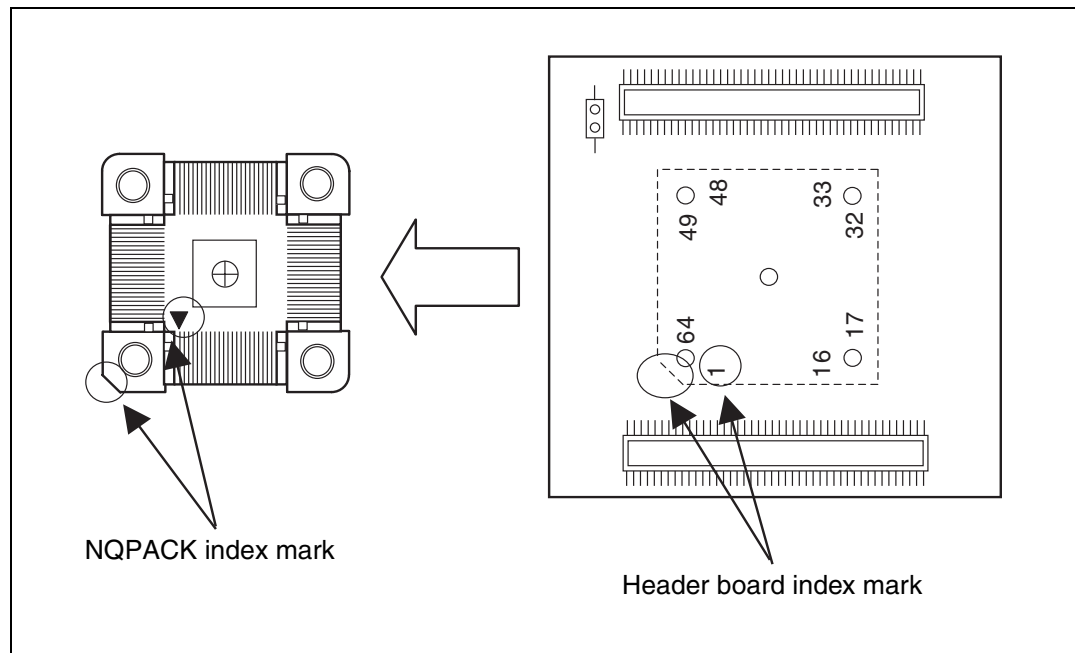

Figure 4 Index Position
1. To connect the header board to the user system, match pin 1 indicated by the index mark (▲) on the NQPACK mounted on the user system with pin 1 indicated by the index mark (an angle cut linearly at one place only in silk screen) on the header board and then insert it (see “Figure 4”) . The pins of YQPACK are thin and easy to bend. Insert NQPACK after confirming that the pins of YQPACK are not bent.